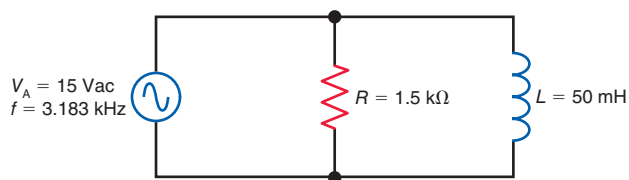

Figure 20-19
20.16 In Fig. 20-19, what happens to each of the following quantities if the frequency of the applied voltage increases?